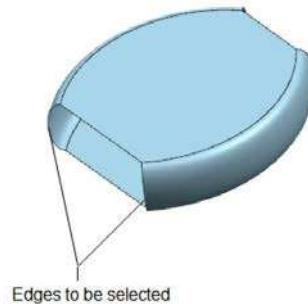

Figure 11-49 Edges to be selected
- f. Create the bottom surface of the model using the **Bridge** tool, refer to Figures 11-49 and 11-50.
1. Choose **Menu > Insert > Detail Feature > Bridge** from the **Top Border Bar**; the **Bridge Surface** dialog box is displayed. Select the first edge and then the second edge, refer to Figure 11-49.